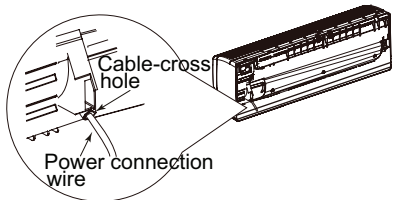

Fig. 12
- (2) Make the power connection wire go through the cable-cross hole at the back of indoor unit and then pull it out from the front side. (As show in Fig.12)